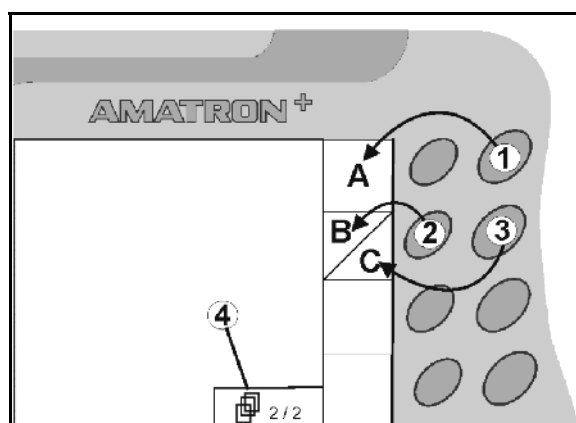

Fig. 10
- If boxes appear on the display, only the right key (Fig. 10/1) is assigned to the function field (Fig. 10/A).
- the left key (Fig. 10/2) is assigned to the top left function field (Fig. 10/B).
- the right key (Fig. 10/3) is assigned to the bottom right function field (Fig. 10/C).
<ul style="list-style-type: none"> • Scroll to other menu pages (only possible if (Fig. 10/4) appears in display)